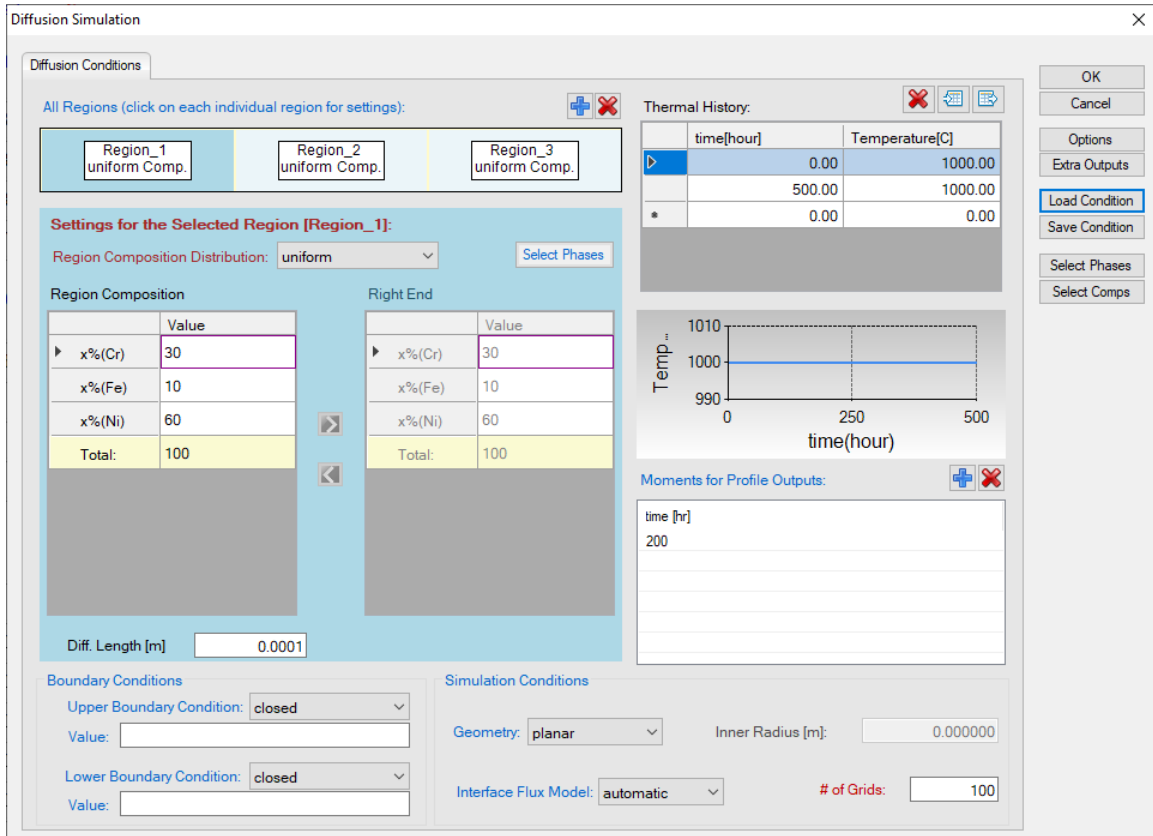

Figure 4.5.1: Setting of the simulation condition
- Click on "PanDiffusion->Diffusion Simulation" and set up the calculation condition as shown in Figure 4.5.1. First click the blue "+" above Regions to add another region, Region_3. Select Region Composition Distribution as "Uniform".